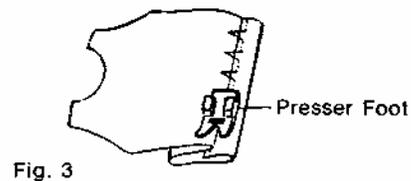

Fig. 3
3. Place garment under presser foot in such a manner that straight stitches will be sewn on extended edge. The zigzag stitch should just catch the fold of the garment. Fig. 3
3. With the needle above, turn the Stitch Width-Buttonhole Control to marking "3" and sew in reverse forming the second side of the buttonhole. (See Fig. 3)